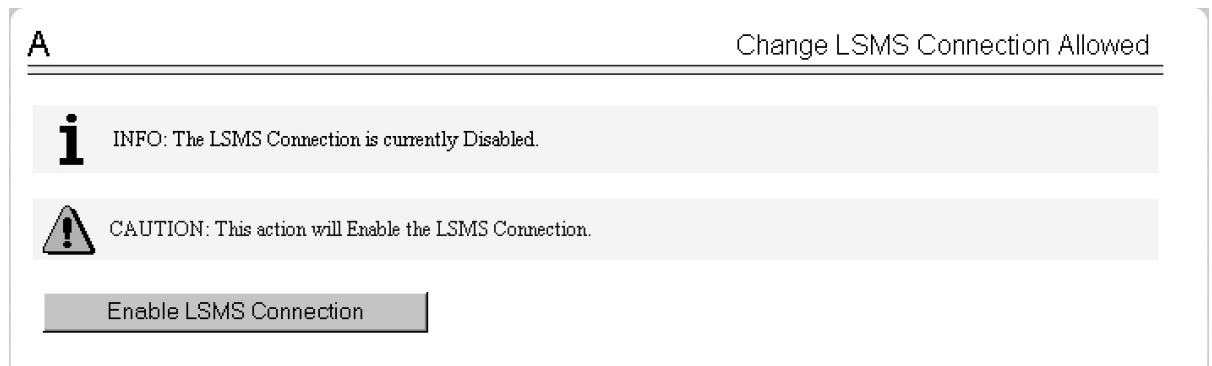

Figure 26: Enable LSMS Connection Window
b) Select **Maintenance>LSMS Connection>Change Allowed**: a window similar to the example shown in Figure 26: Enable LSMS Connection Window displays.